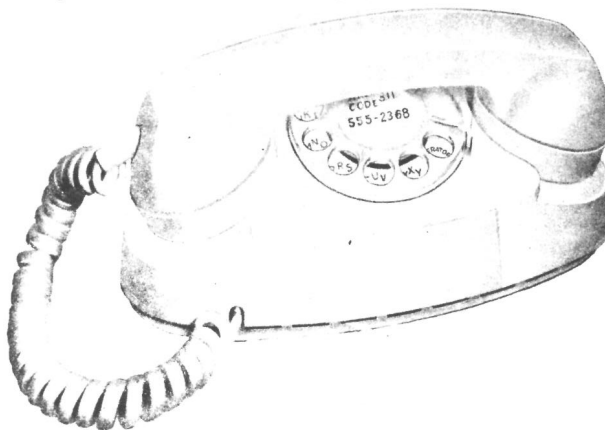

FIGURE 1 — 700-Type Telephone Set
- 1.01 This practice presents a description of the 700 series of desk telephones. The 700 series provides a group of compact, anti-sidetone type desk telephones which operate efficiently over a wide range of loop resistance and line impedance. The instruments are intended for use in special locations, such as bedrooms, or where desk space is at a premium. Each instrument consists of an oval pressed aluminum baseplate, with a non-skid rubber mat underneath, on which all internal parts are mounted. A molded plastic housing covers the assembly and provides a cradle for the handset, which is connected to the internal components by a flexible plastic covered cord (See Figure 1). A second plastic covered cord connects the instrument to a molded terminal block or wall-mounted ringer unit. *A separate ringer unit must always be fitted with these instruments*, except when they are used as extension units, as the extremely compact design does not include an internal ringer.